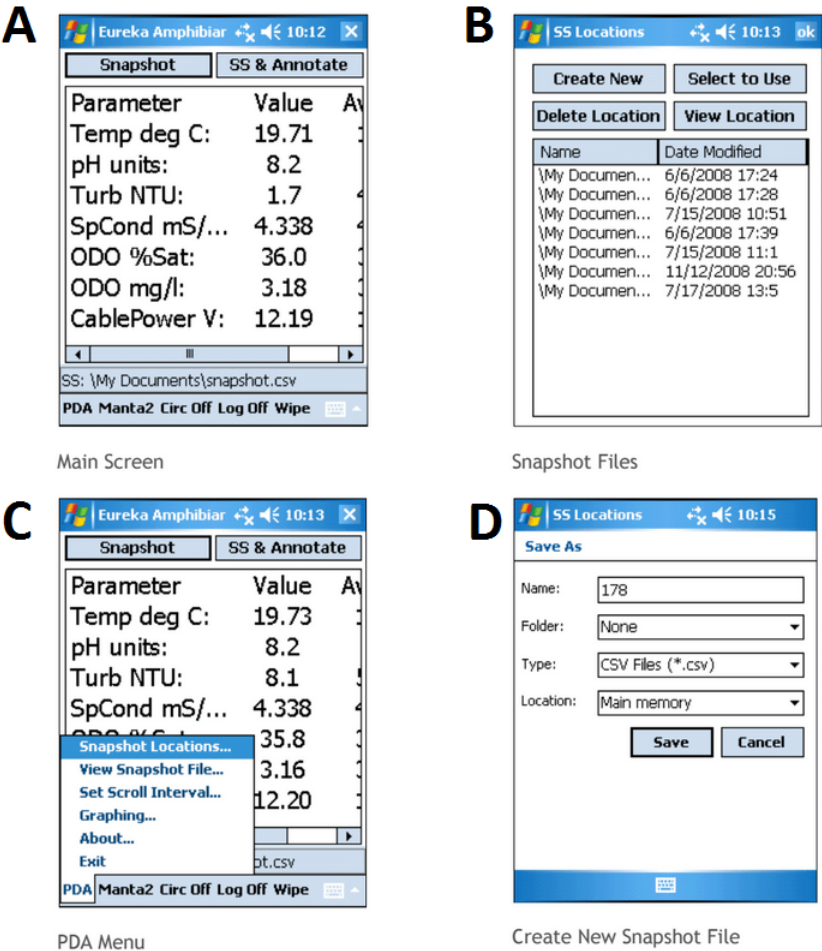

Figure 1: Amphibian Working Screens
up + P3 and **arrow up + P4**. When you open the Amp_2.2_6, the Main screen will appear(A) (Figure 1). This is where you will see data readings. To log, or store, one line of data take a "snapshot" with the top left button (A). To locate snapshots, open the PDA menu in the bottom left corner and select "snapshot locations"(B). In the SS locations screen (C) you can edit your files or a create new one. When creatign a new file (D), annotate using the guidelines in 10.5.To see data presented graphically, open the PDA menu and select "graphing" (B). To exit the program, again open the PDA menu and select "Exit."